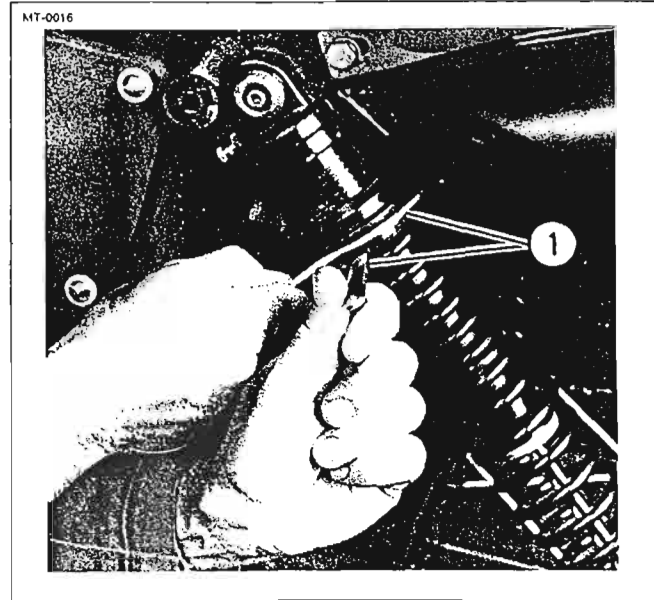

Figure 2-22. Adjusting Load Setting
See Figure 2-22. Shock absorbers have settings for different loads carried by vehicle. Use two spanner wrenches (1) from tool kit to adjust shock absorbers as required. Compressing (shortening) the auxiliary (upper) springs enables the vehicle to carry a heavier than normal load and still maintain good suspension rebound control.